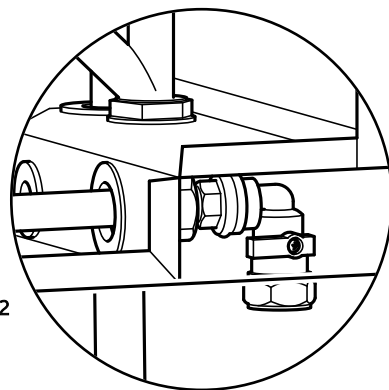

Fig. 32
1. Ensure the gas service cock is turned on (see Fig. 32). The entire gas installation must be tested for gas soundness and purged in accordance with BS6891.